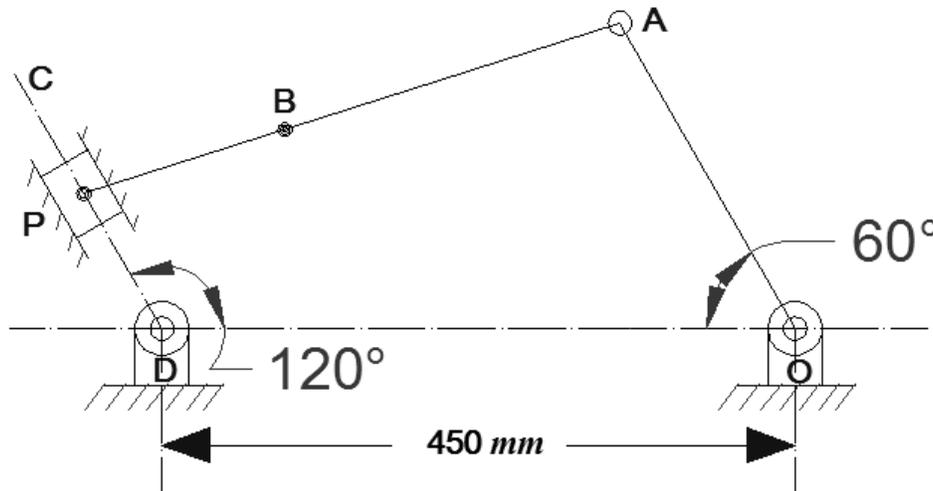

Figure: 1
5. In the slider-crank mechanism shown in Figure 1, the block P reciprocates along the fixed line CD. The crank OA rotates *clockwise* at a uniform speed of 150 rpm. The dimensions of the links (in *mm*) are: $OA=AB = 250$; $AP = 400$; For the given configuration, find the velocity and acceleration of the block P. [10]